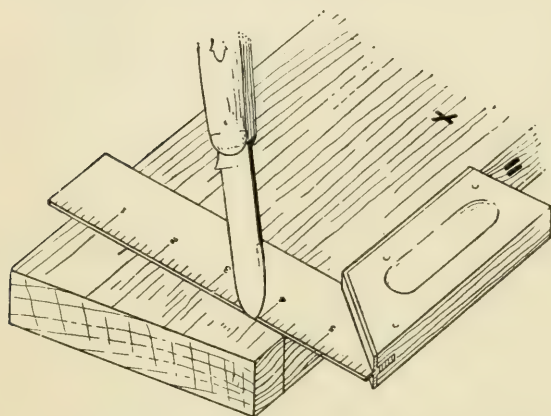
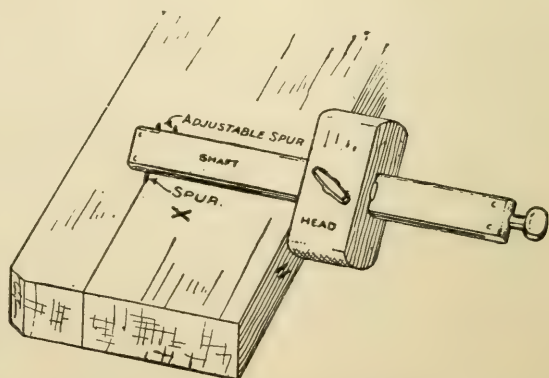
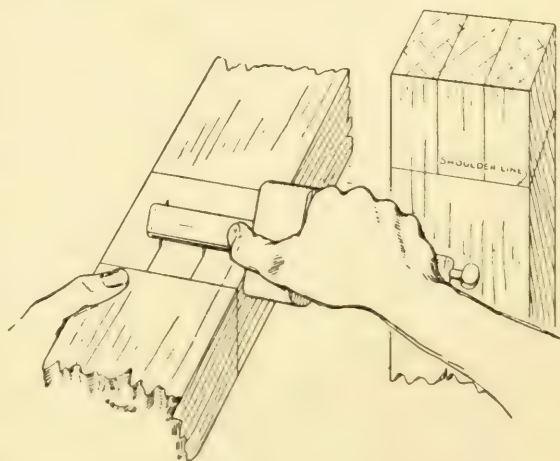

FIG. 67. — Scribing with Knife and Try-square.
FIG. 68. — Gauging with a Marking-gauge (a Mortise-gauge).
FIG. 76.
right- and a left-hand mitered kerf in the *stop* strip it may be used for sawing small work accurately. Make the bench-hook out of a piece of board about 12 inches square, and nail the *hook cleat* to the under side of one edge and the mitered stop to the opposite edge as shown. The kerfs in the stop strip may be laid out with a mitered handle try-square (Fig. 67, page 52), but it will be easier to cut them in a miter-box.
ing lines between points and carrying them around the four sides of a piece of work. (See Fig. 67; also *Planing Exercise* on page 54.) A sharp lead-pencil may
**Gauging.** Figures 68 and 76 show how to gauge with a marking-gauge. Suppose you wish to cut a piece 3 inches wide from a 4-inch board. You must first test one edge and true it up, if necessary, to make it straight for a *working edge* (see *Planing Exercise*), then place the *head* of the gauge against this edge of the board, and with
the *spur* in the *shaft* pressed into the surface of the wood (Fig. 68), scratch a line along the board for a distance equal to the length of the piece to be removed; also scribe the line upon the opposite face and you will then have a guide-line upon both faces to saw and plane to, which is exactly parallel to and at a distance of 3 inches from the *working edge*. The gauge is also used for laying out various forms of wood joints. The *double-spur* upon the shaft of the mortise-gauge is provided for laying out the two sides of a *mortise* or *groove* in one operation (Fig. 76), the outer spur being fixed and the inner one made adjustable by means of a thumb-screw in the end of the shaft. This form of gauge saves lots of time, especially when you have a number of mortises or grooves of one size to lay out.
and should be marked with a cross (Fig. 67). With the *handle* of the try-square held firmly against this working face and the *blade* extending across an edge (Fig. 72), move it along the surface, locate the high places, and plane it up and test it as you did the working face. Mark this edge, which now becomes the *working edge*, with two short parallel lines (Fig. 68). Next, set the marking-gauge to any thickness desired for the board and, with the *head* of the gauge pressed firmly against the working face, gauge a line along each edge. Plane up the second face to the gauge lines, test and true up. The ends of the board should be trimmed off next. With the handle of the try-square pressed firmly against the working face, first scribe a line across the working edge, then, with the handle of the square against the working edge, continue this line across the working face and the opposite face. From the working face carry the line across the unfinished edge. Then, from the scribed line, lay off the length to which you wish to cut the piece and scribe another line around the four sides at that distance. Saw off the ends of the board about  $\frac{1}{8}$  inch outside of the lines, to allow for planing them up smooth. In planing across *end grain*, the farther edge will split down unless protected. This difficulty may be overcome by placing another piece of wood in front of it when you clamp it in the vise, but it is better to *chamfer* the unfinished edge (see Fig. 90), which is the only reason for not finishing this before the ends. After planing off both ends square, set
the gauge to the width you wish to make the board and gauge a line along the faces and across the ends, sliding the head of the gauge along the working edge (Fig. 68); then saw off the edge to within about  $\frac{1}{8}$  inch of the lines with a rip-saw and finish the edge with the plane.
is shown in Figs. 76 and 77. Both members of the joint should first be finished up to the proper size, except that additional length must be left on the tenon piece to allow for the cutting of the tenon, and the mortise piece should also be a
(Fig. 76), then set your mortise-gauge to the width of the mortise and scribe the two side lines (Fig. 76) on both faces of the piece. The width of the mortise should be